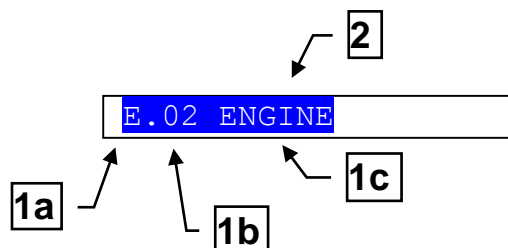

Fig. 4 - Top status bar
5.6.5 Top status bar (ref. to fig. 4)